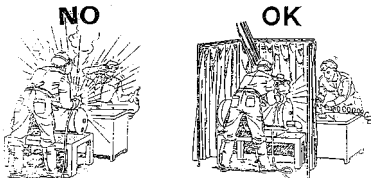

Fig.4
- Welding should be done in a ventilated and closed area that does not open onto other working areas, in order to protect all workers against radiation and fumes. If such an area cannot be provided, other operators and assistants close to the welding area shall be protected by interposition of opaque transparent curtains and screens, flame retardant and complying with the local legislation (color of the protective curtains depends on the welding process and on the welding currents), by use of anti-UV glasses and if necessary of a mask with suitable protective filter. (Fig. 4).